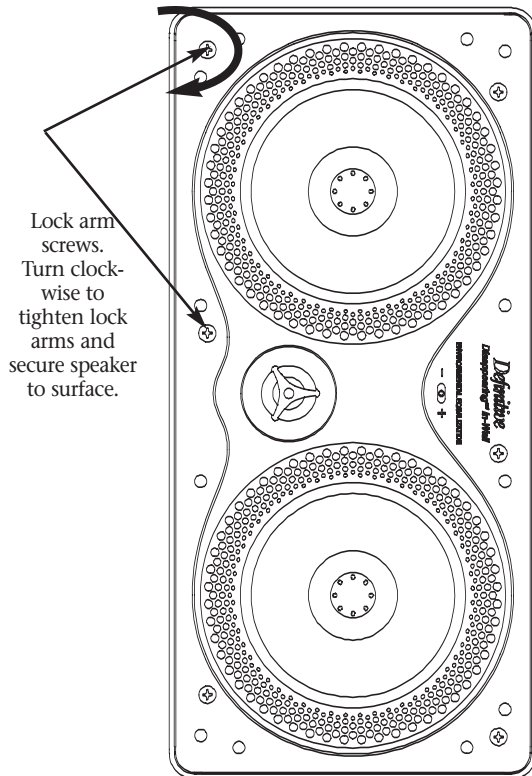

Figure 10
- Place the speaker carefully into the cutout. If you have a bubble level, use it to help you correctly align the speaker. Tighten the lock arm screws with a screwdriver [Figure 10]. This will rotate the lock arms [Figure 11] and secure the speaker to the wall/ceiling. Do not over-tighten the lock arm screws. If you are using a powered screwdriver or drill set the torque to a value of 7 in. – lb. (8dN – m).